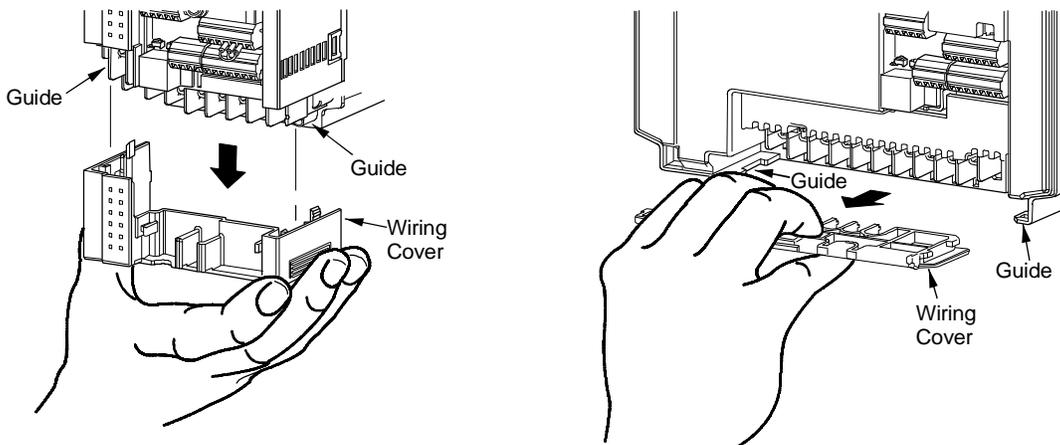

Figure 6: Remove the High-Voltage Wiring Cover
2. Remove the high-voltage wiring cover at the bottom of the VFD68 drive (Figure 6).